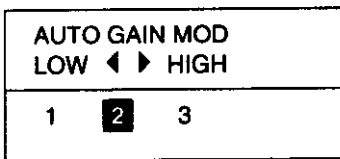

Figure 1-5 Dialogue for automatic adjustment of gain
1. Press the [GAIN] key to display the screen shown in Figure 1-5.